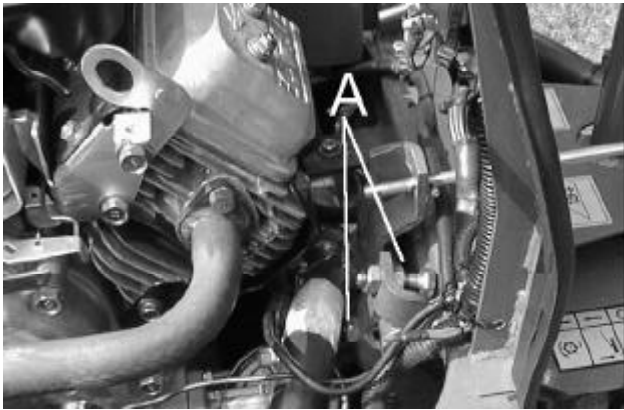

Fig.27
**Main Drive Belt Adjustment. (Fig.27 & 27.1)**
- (a) Adjust overcentre stops (A Fig.27) to establish toggle over position of adjuster link (B) in engaged and disengaged positions.
### **Snaarafstelling van Hoofdaandrijving (Afb. 27 & 27.1)**